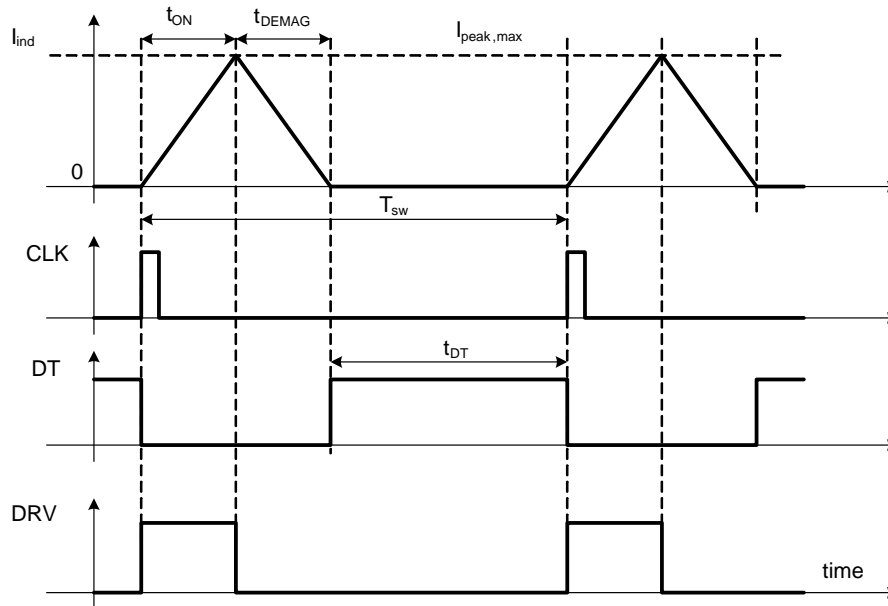

Figure 75. NCP1602 Clock, Dead Time and t_{ON} Waveforms
The **Frequency Foldback (FF)** system adjusts the on-time versus t_{DT} (see Figure 75) and the output power in order to ensure that the instantaneous mains current is in phase with the mains instantaneous voltage (creating a PF=1).